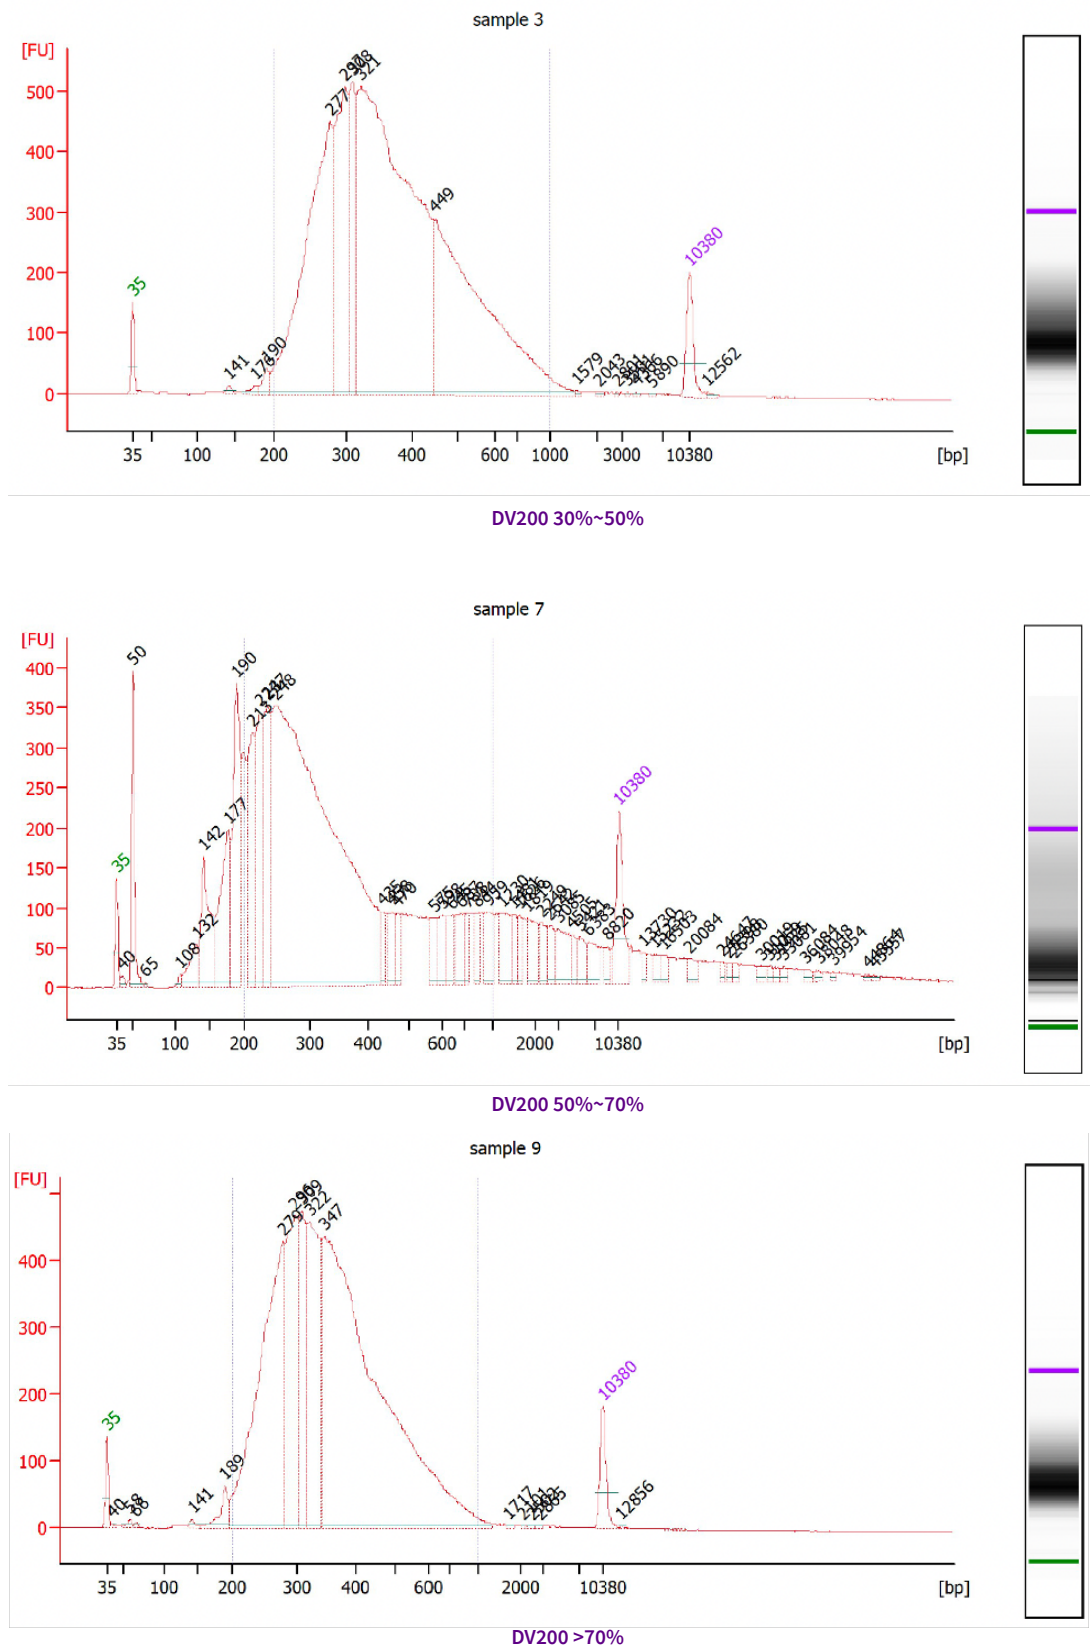

Figure 1. Agilent 2100 Bioanalyzer fragment size distribution of the FFPE Libraries from samples with different DV200 score
- e. Take 1 µL of purified PCR product and measure the concentration with Qubit dsDNA HS Kit. Use Bioanalyzer, TapeStation (Agilent Technologies), LabChip® GX, GXII, GX Touch (PerkinElmer), Fragment Analyzer™ Advanced Analytical) or other equipment based on the principle of electrophoretic separation to detect the fragment distribution of the purified PCR products. The main peak of fragment distribution is around **100-1000 bp** (Figure1). Normally, the PCR yield is higher than **100 ng**.